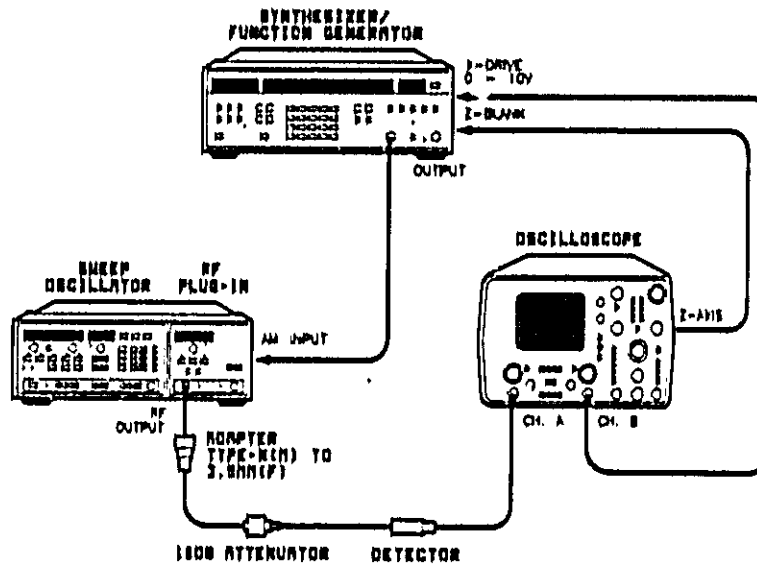

Figure 5-36a. ALC Gain Check Test Setup
3. Connect the equipment as shown in Figure 5-36a.